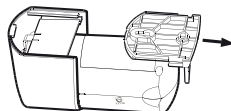

Fig. 14
2. Remove the bracket. Fig. 14